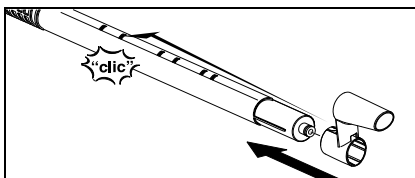

Figure 2
- Hold the unlocking button down, and push the parking device (G3) on an extension tube (G1) until it locks in place in the second aperture. The parking device must lock into place when you release the unlocking button (see Fig. 2).